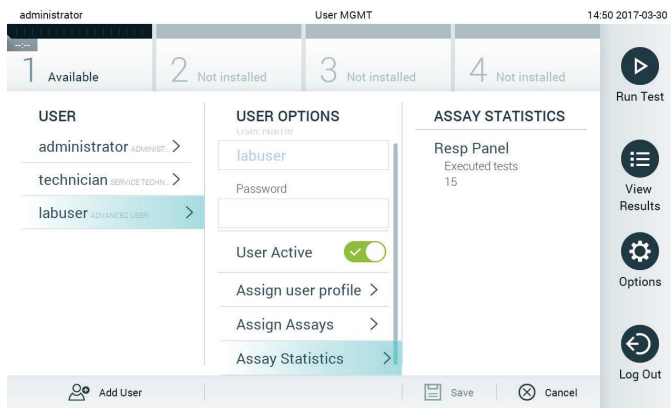

Figure 51. Viewing assay statistics.
- **Assay Statistics:** Shows the number of times an assay was run by the selected user (Figure 51).